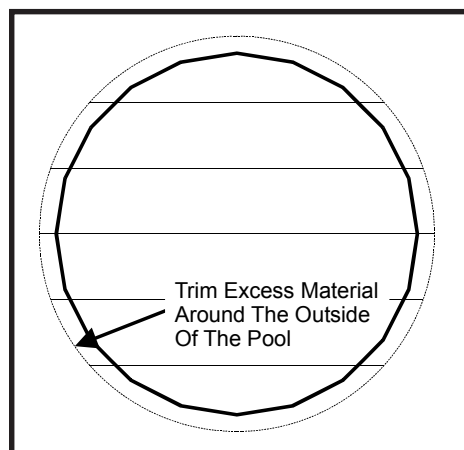

Figure 3
**Step 10:** After you have finished filling your pool with water, trim the excess HappyBottom® material from around the outside of the pool using a utility knife. (See figure 3)